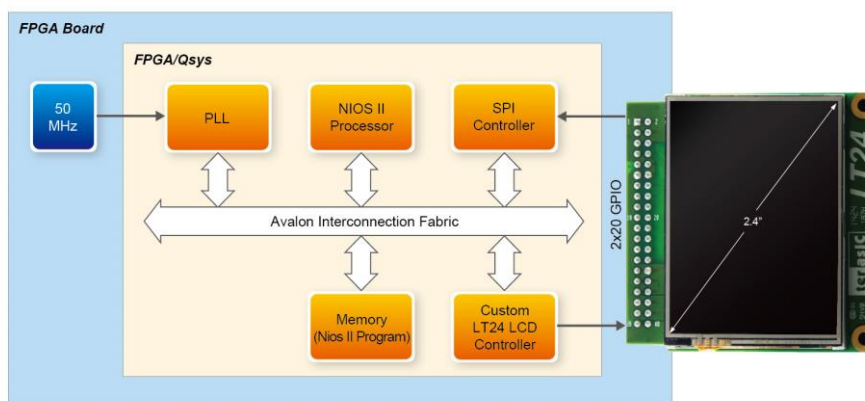

Figure 4-3 System block diagram of Painter demonstration
**Figure 4-3** shows the system block diagram of Painter demonstration. Terasic custom Qsys component - **LT24 LCD controller** is used to display 240(H) x 320(V) image. Its source code is located in the “/ip/LT24\_Controller” folder of Painter demo project. Qsys built-in SPI controller is used to communicate with the AD7843 ADC via SPI interface to retrieve data from the touch screen. The Nios II program handles touch event and image display. It is stored in either on-chip memory or external memory. The LCD module should be initialized before sending image data to the LCD for image display.